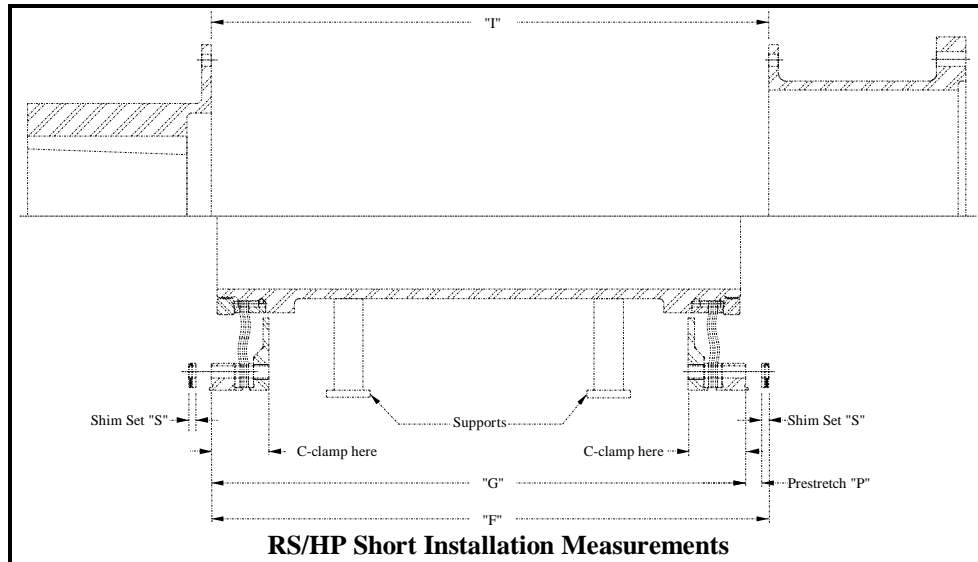

Figure 4-9
- 4.4.3.1 Measure and record , on the worksheet provided in Paragraph 4.4.5, the installation length "I" (distance between mounted flange faces) at four (4) places approximately 90° apart (see Figure 4-9).
- 4.4.3.2 Assemble the spacer rings, as shown on the Ameridrives Sales Drawing, onto both ends of the diaphragm pack sub-assembly taking care to re-align the matchmarks and end identification letters. Install a minimum of four (4) bolts approximately 90° apart through each spacer ring and tighten the bolts evenly in a crises- cross pattern to seat the pilots. On some size couplings the grip length of the bolts is too long to allow seating of the pilots in this manner. When this condition exists, a spacer plate, washers, shorter bolts, or C-clamps (not supplied) may be required to seat the pilots. Support as shown in Figure 4-9).
- 4.4.3.3 Measure and record, on the worksheet in Paragraph 4.4.5, the coupling free length "G" (distance between spacer ring outer flange faces) at four (4) places approximately 90° apart. It is recommended that C-clamps be used to compress the diaphragm pack at the location the measurements are being taken (see Figure 4-9).